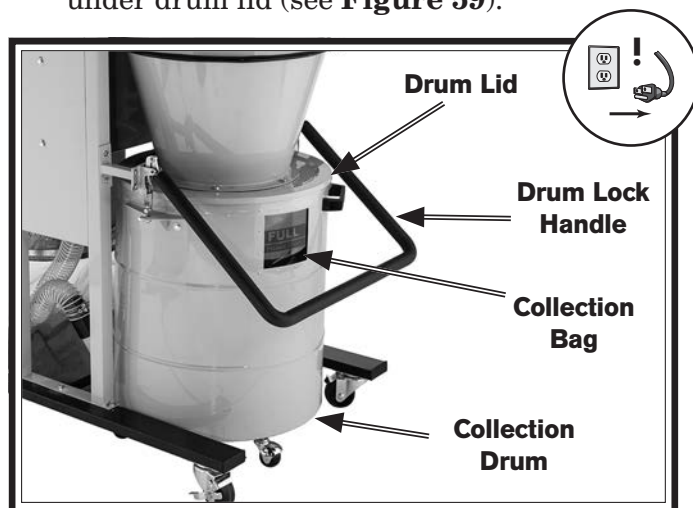

Figure 59. Drum collection bag components.
2. Lift drum lock handle to lower collection drum onto casters then roll drum out from under drum lid (see **Figure 59**).